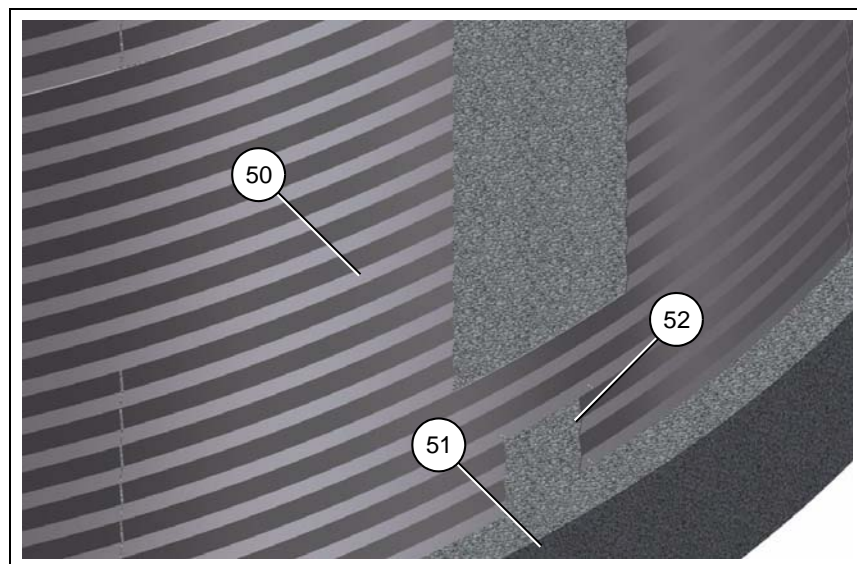

Figure 4A
1. Cut 12" (H) x 14" (W) (305 mm x 356 mm) rough opening (52) in the bin wall where the unloader is to exit the bin. (See Figure 4A.)